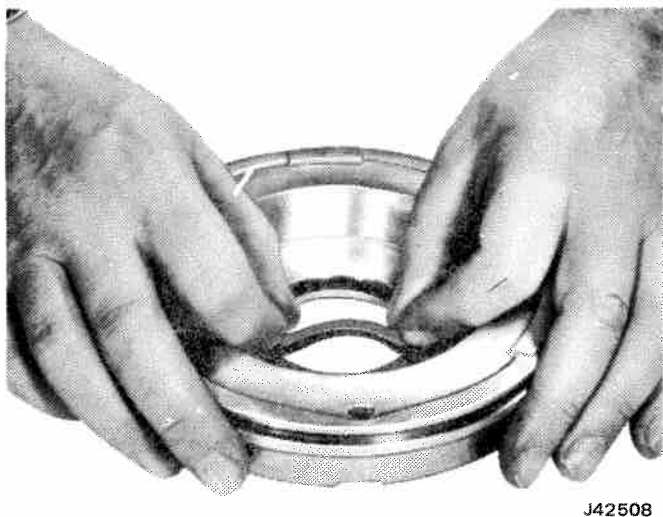

Fig. 7-78 Installing Inner Seal on Direct Clutch Piston
(1) Install a new inner seal on piston of direct clutch, with lip of seal facing away from spring pockets (fig. 7-78).